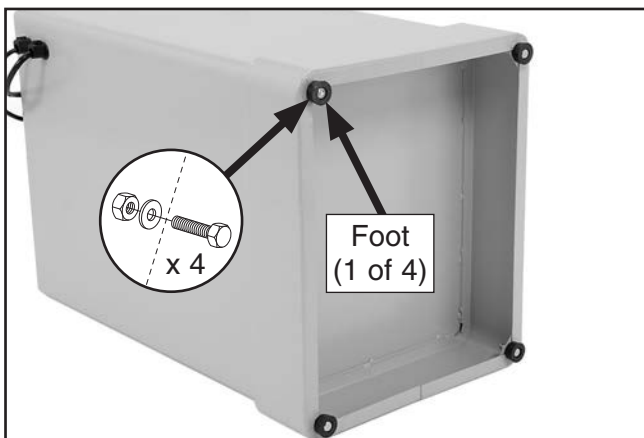

Figure 23. Feet installed onto bottom of cabinet.
- Fasten each foot with a $\frac{5}{16}$ "-18 hex nut and $\frac{5}{16}$ " flat washer (see **Figure 23**).